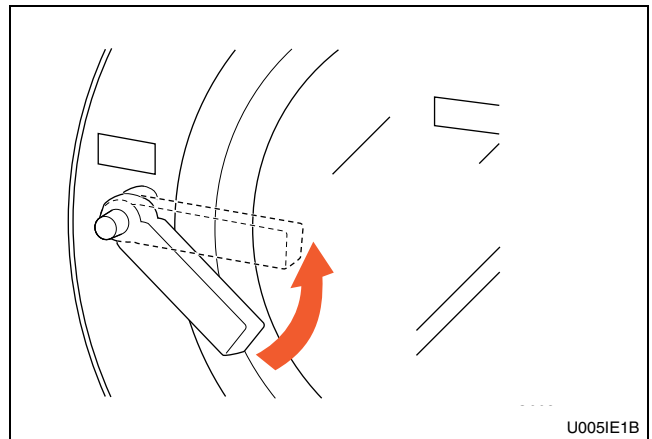

Figure 19
4. Close door and turn handle counterclockwise until button pops out. Refer to *Figure 19*.